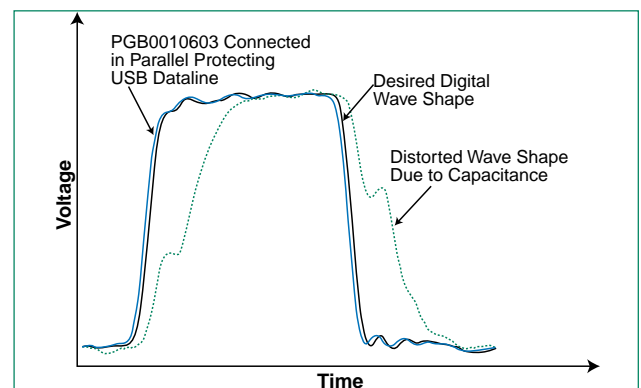

Figure 1. Distortion of Waveform
- As USB 2.0 data rates increase to 480Mbps, the selection of the correct ESD suppression type is critical. PulseGuard® ESD suppression devices have very low capacitance which allows them to be used in circuits with higher data rates than other technologies. Figure 1 shows the effect of waveform distortion caused by excess capacitance on a data line.